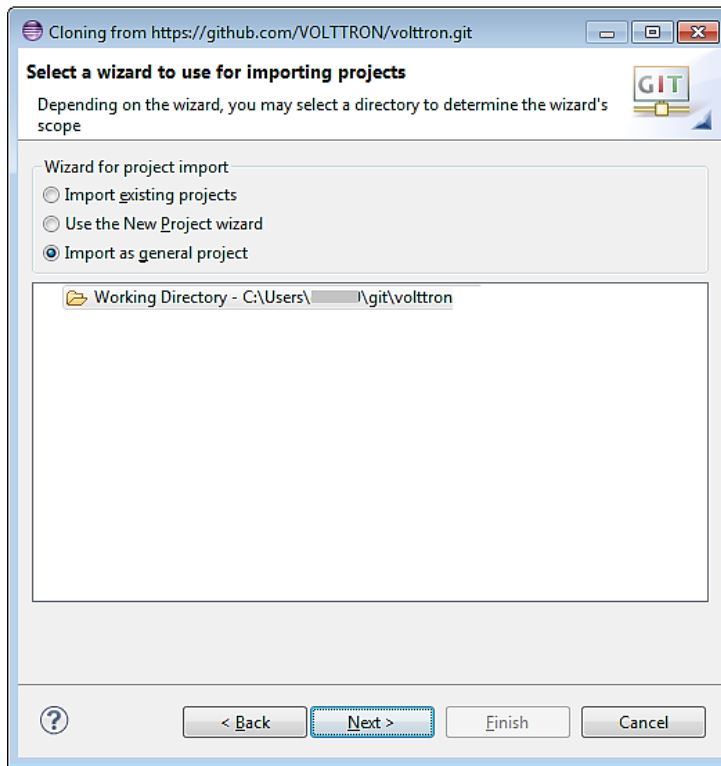

Figure 42: Checking Out Transactional Network With Eclipse (continued)
- Select Import as general project, select Next, then select Finish (Figure 42)